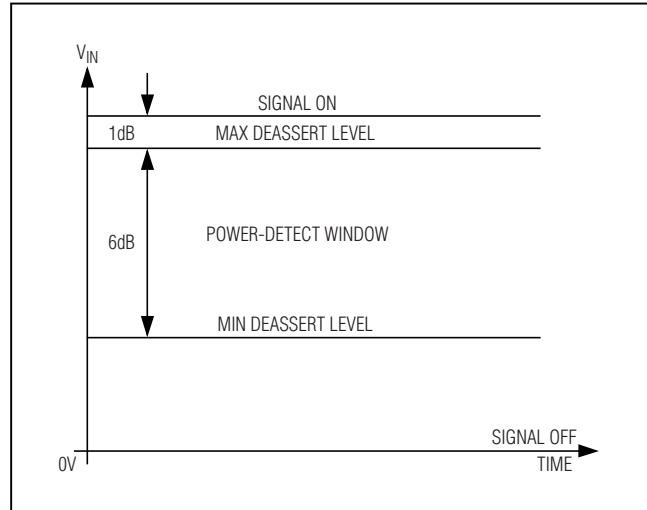

Figure 2. LOS Deassert Threshold Set 1dB Below the Minimum by Receiver Sensitivity (for Selected  $R_{TH}$ )
**Note 8:** The signal at the input is switched between two amplitudes, Signal\_ON and Signal\_OFF, as shown in Figure 2.